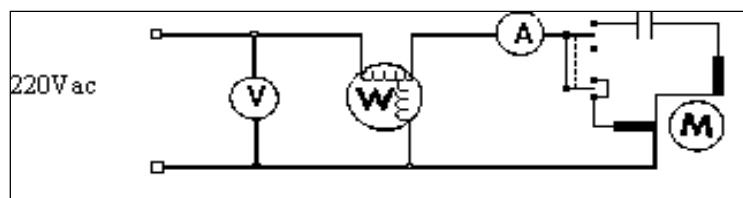

Figure 3.2: Capacitor start motor
1. Using FH80, connect the circuit as in Figure3.2.